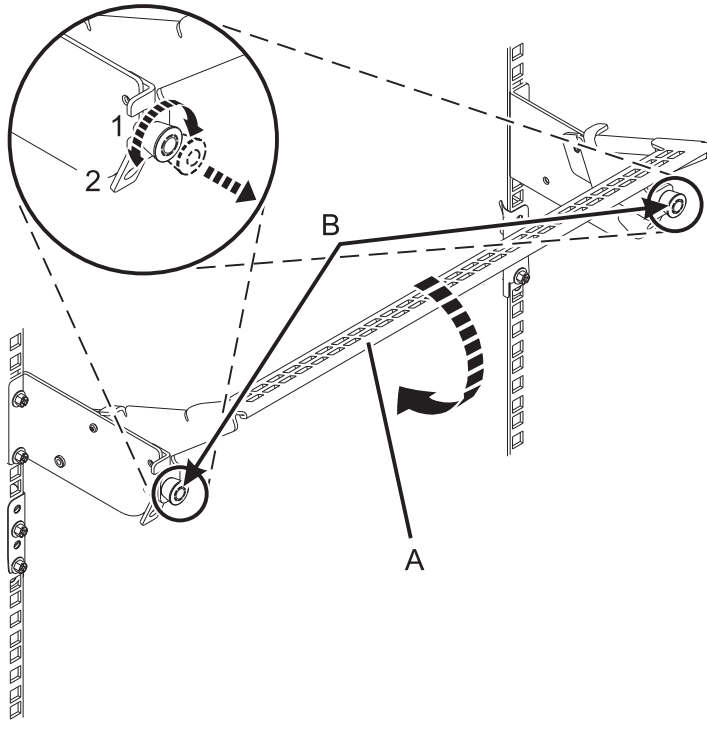

Figure 111. Placing the cable management bracket in the operating position
3. Put the cable management bracket in the operating position. See Figure 111 on page 108.